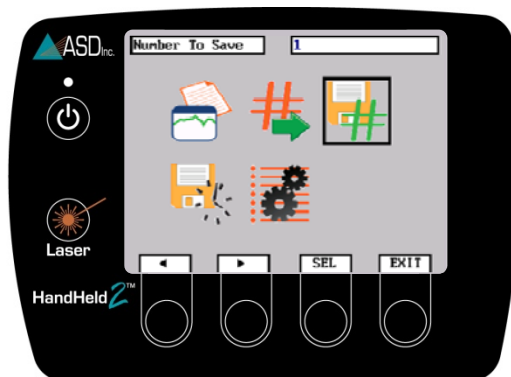

Figure 2-33: Navigate to Number to Save
- Step 2 Navigate to the Number to Save icon and press the *SEL* Button (Figure 2-33).